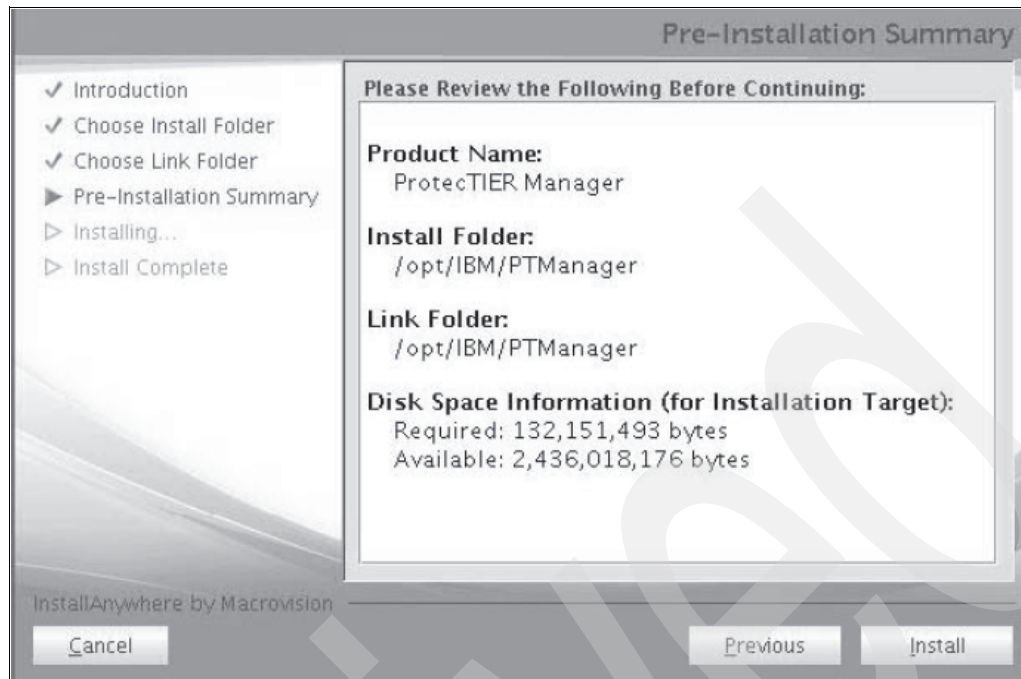

Figure 6-17 TSSC PT Manager GUI installation
7. You see Figure 6-17 on page 109. This panel shows you where the ProtecTIER GUI Manager software will be installed.